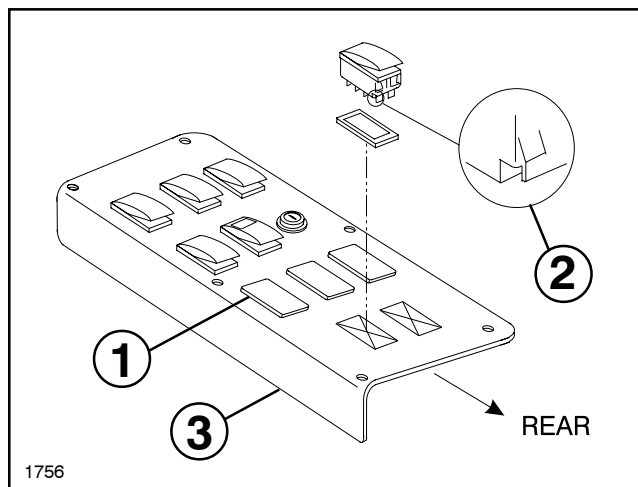

Fig. 13
6. Lift and remove the two plugs from the Spray Control Panel on the vehicle and install the two Rocker Switches provided in their place. Insure their orientation matches the orientation in Fig. 13, with the notch to the rear of the Vehicle. This notch indicates the end of the switch to which the locking Arm will mate.